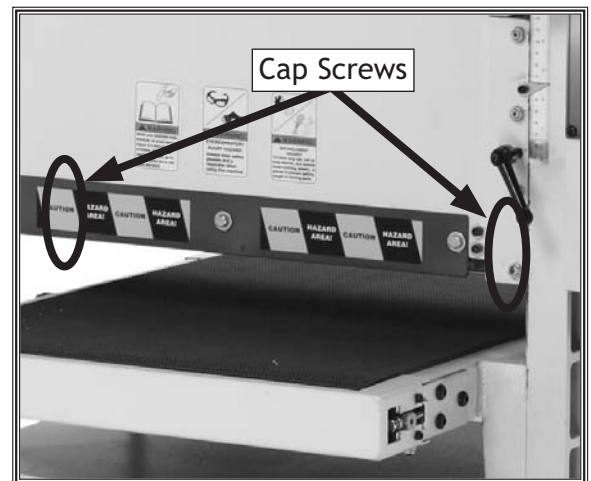

Figure 35. Pressure roller adjustment cap screws (front cap screws shown).
5. Loosen the eight adjustment cap screws securing the front and rear pressure rollers (see **Figure 35**).